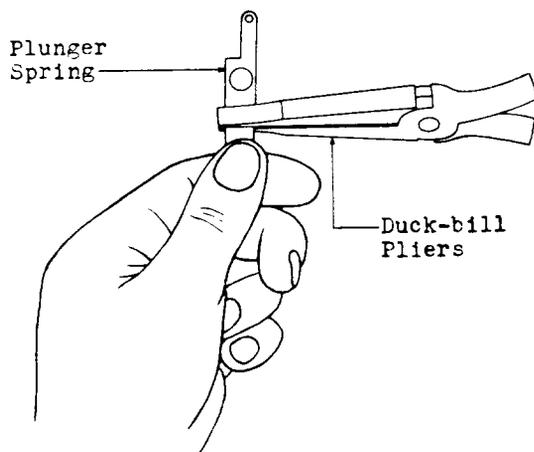

Fig. 6 - Method of Adjusting Plunger Springs of 69, 183, 242, 508, 521 and 539 Type Keys
**M-7** To adjust the tension of both plunger springs so that they are approximately equal, apply the duck-bill pliers at a point approximately 1/3 of the distance from the spring mounting screw hole to the crimp of the spring as shown in Fig. 6. After making adjustments, reassemble the key and check to see that the plunger does not bind.